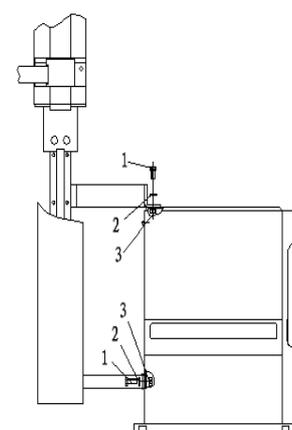

Fig 10
- 3) Install the upper support and bottom support on the help arm; Install the help arm on the tire changer with screw 1 and washer 2;(Fig 10)